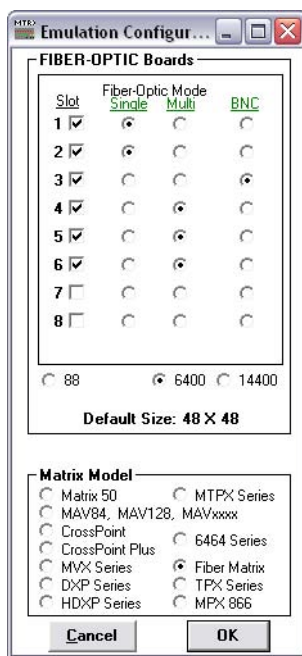

Figure 5-17 — Emulation mode configuration
5. Select **Fiber Matrix** as the Matrix Model, **6400** as the Default Size (figure 5-17); check the boards that are installed; and select the type, **singlemode**, **multimode**, or **BNC**, for each board. Click **OK**.